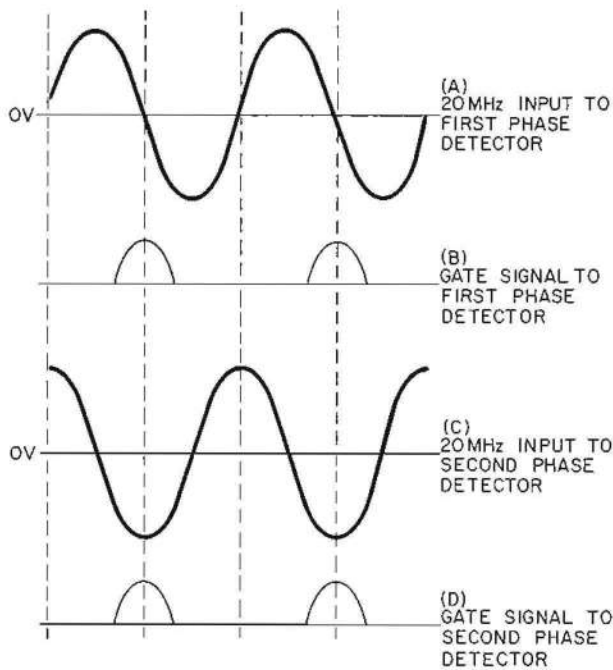

Figure 4-2. Input Signal Phase Shift and Phase Detector Gate Times
4-8. The output of the first phase detector (A) is the signal used to phase-lock the signal source to be stabilized. This phase detector output is applied through the lock mode switch, a differential amplifier, and the output amplifier back to the microwave source. The dc level of the synchronizer output is monitored by the PHASE ERROR meter. The 20-MHz input signal applied to the first phase detector is simultaneously applied through a +90-degree phase shifter to the second phase detector (B). The diodes of the second phase detector are gated on in phase with the diodes in the first phase detector. As shown in Figure 4-2, when the first phase detector is gated on at the negative-going zero voltage level of the 20-MHz input signal, the second phase detector is gated on at the maximum negative voltage level of the input signal. Conversely, if the first phase detector is gated on at the positive-going zero voltage level of the 20-MHz input signal, the second phase detector is gated on at the maximum positive voltage level of the input signal. Therefore, when the output of the first phase detector is approximately zero volts, the output of the second phase detector is either a maximum negative or maximum positive voltage level. The different voltage level outputs of the two phase detectors enable the synchronizer to reject one of the two possible lock points (reference oscillator set 20 MHz above or below desired frequency of signal source) for stabilizing the signal source. This happens when the output of the second phase detector is negative (as shown in Figure 4-2).
4-10. If the microwave source is 20 MHz above the reference oscillator harmonic, an attempted increase in source frequency will attempt to increase the 20-MHz IF frequency (or, more precisely, to advance the phase of the 20-MHz IF with respect to the 20-MHz reference). The output of the first phase detector (as shown in Figure 4-2) will become more negative. The 8709 Helix error signal output will become more positive (due to the 180-degree phase shift through the amplifier in the A7 assembly) and the microwave source frequency will be decreased, assuming the source is an H81-8690 Series Sweep Oscillator in which there is an additional phase reversal in the shunt tube coupler circuit. These conditions are correct for phase-locking as shown in Figure 4-2.